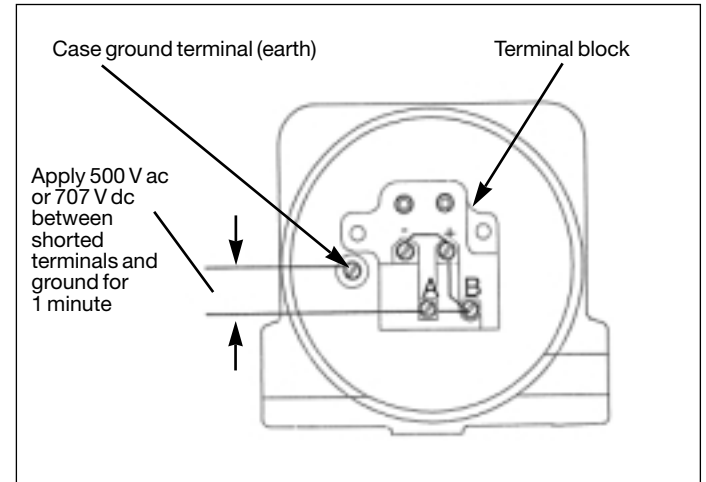

Figure 27. Connections for Post-Assembly Dielectric Test
To ensure there are no faults to ground in any of the internal wiring, apply 500 V ac or 707 V dc dielectric strength test for 1 minute between shorted input terminals (+), (-), (A), (B), and housing ground as shown in Figure 27.